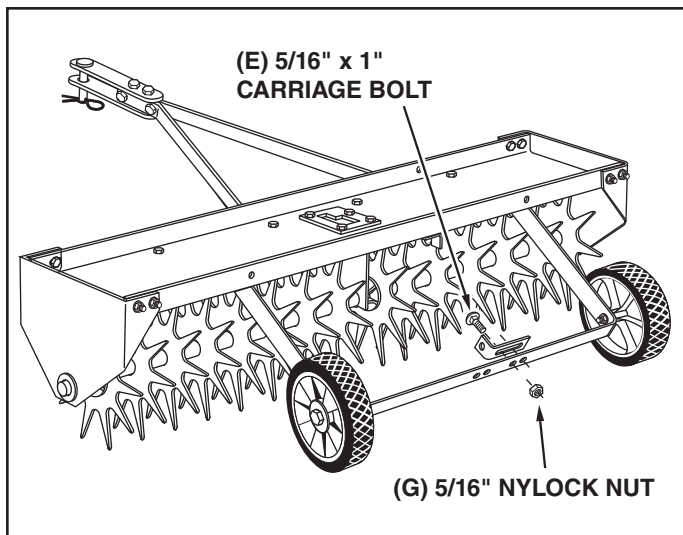

FIGURE 6 **REAR VIEW**
12. Assemble a hitch arm mount bracket (K) to the axle bracket using two 5/16" x 1" carriage bolts (E) and 5/16" nylock nuts (G). **Do not tighten yet.** See figure 6.